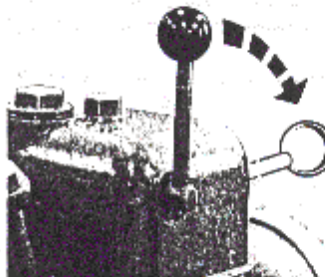

Fig. 5. Decompression lever
- 3b. **Engine with hand starting.** Put the decompression lever in vertical position (Fig. 5). Crank the engine as quickly as possible by means of the starting handle and move the decompression lever to its horizontal position during continued cranking. The starting is facilitated by using the cold starting device.